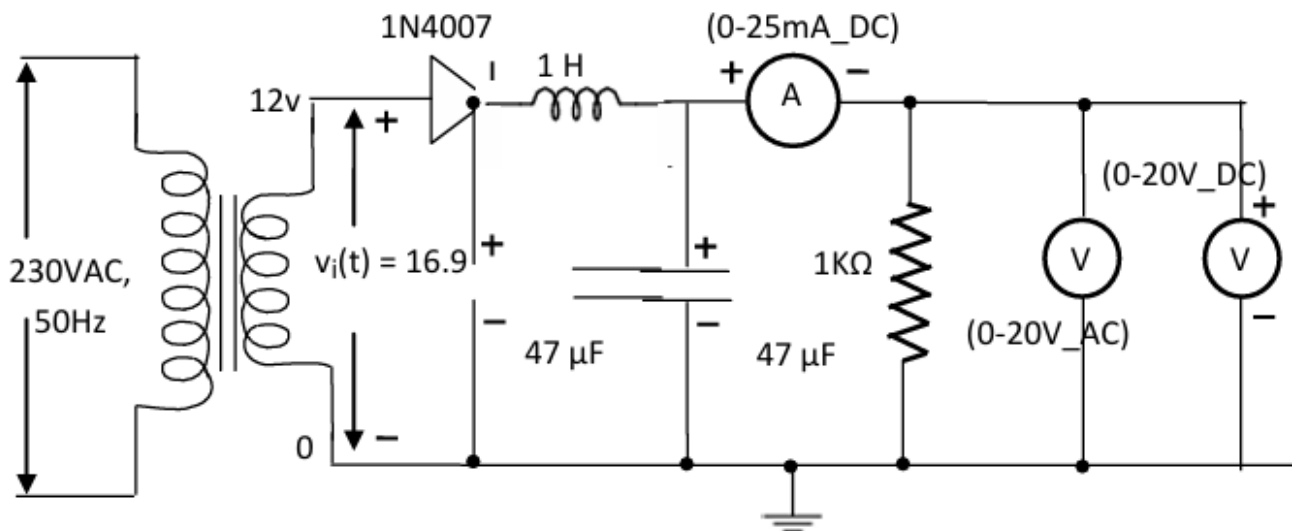

Fig. 5 Half-wave rectifier with π-section filter
1. Connect the inductor according to the diagram in Fig.5.